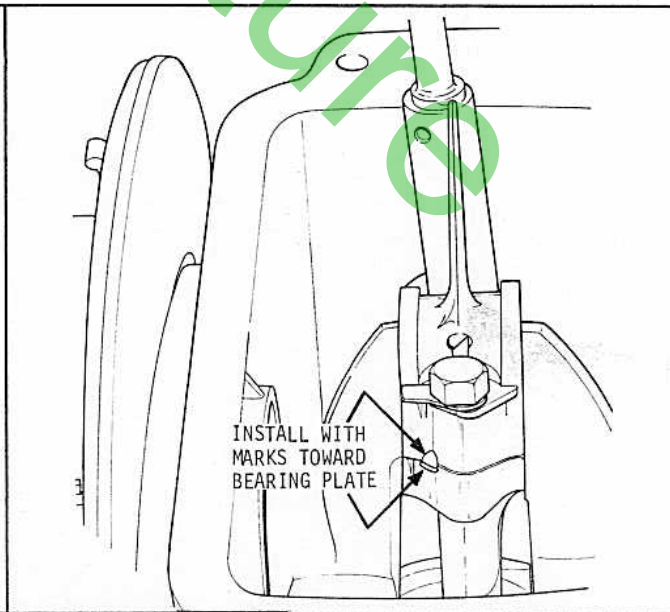

FIGURE 12-11 INSTALLING CONNECTING ROD CAP SCREW
- It is important that marks on connecting rod and cap line up and face flywheel end of engine. (See Figure 12-11)